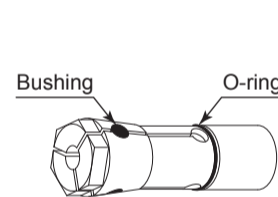

Fig. 5
- Before replacing the collet chuck, ensure that the Bushings (3 pcs.) and the O-ring (1 pc.) are properly and securely attached (Fig. 5). If any of these items are missing, install them before replacing the collet chuck.
- ① Stop the coolant air of motor.
- ② Supply air pressure : from 0.55 - 0.6MPa to Air Inlet Joint to keep the collet chuck opened. Do not take off the tool when the air pressure is supplied.
- ③ Place the provided wrench 12mm on the wrench hook of the spindle shaft, and tighten the Spindle.
- ④ Place the provided wrench 9mm on the collet chuck and turn it counterclockwise to loosen the collet chuck. And take off the collet chuck with the tool from the spindle shaft.
- ⑤ Remove the tool from another collet chuck.
- ⑥ Insert the tool into another collet chuck and turn it clockwise to be attached on the spindle shaft.
- ⑦ Tight it lightly with the provided wrench 12mm and wrench 9mm. (Specified tightening torque : 1.0 N · m).
- ⑧ Exhaust the air through 3-way valve.
- ⑨ After the chuck is replaced, supply the coolant air of motor to the motor.